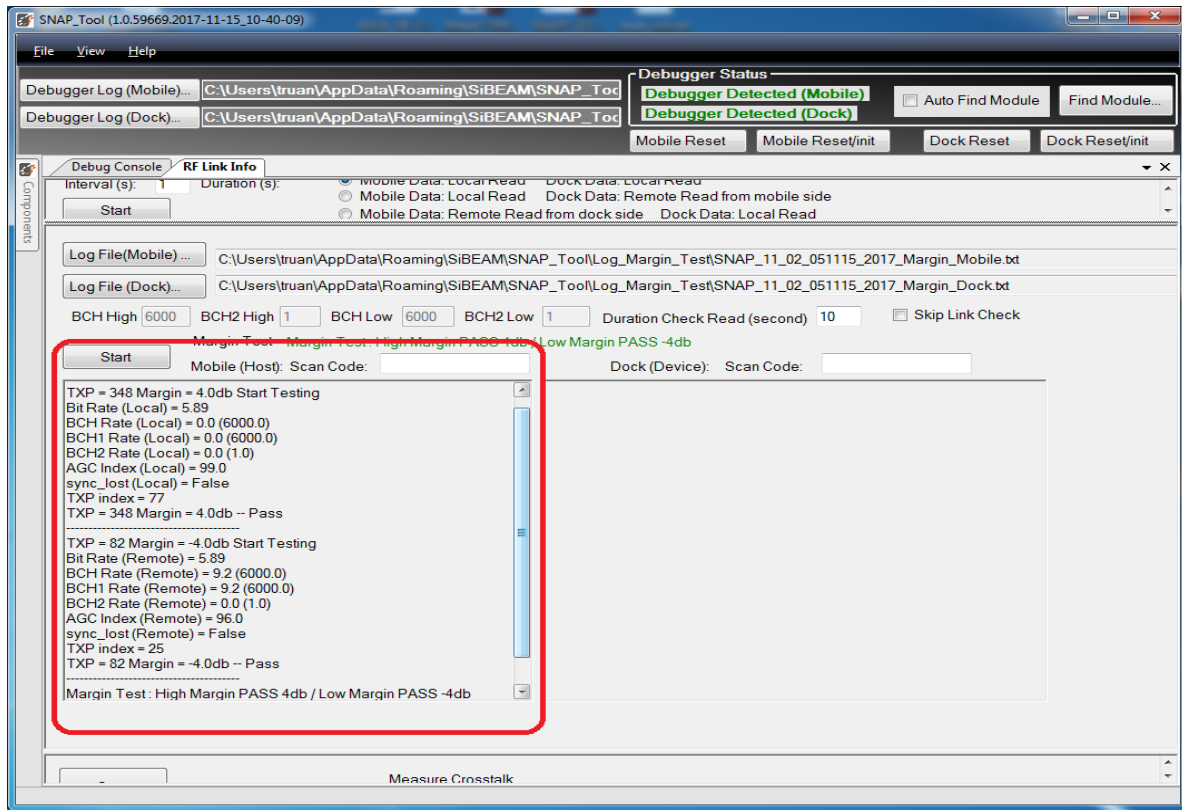

Figure 10.5. Snap_tool RF Link Info Page RF Link Margin
3. Use RF Link Margin function (Figure 10.5) to check the RF link margin.